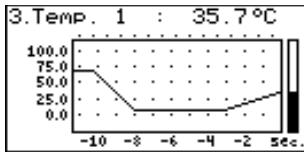

Fig. 6.8. "graph" mode
- "**Graph**" mode (Fig. 6.8) enables the momentary values or averaged values of measurements conducted for one of measurement channels to be viewed in the form of a graph.